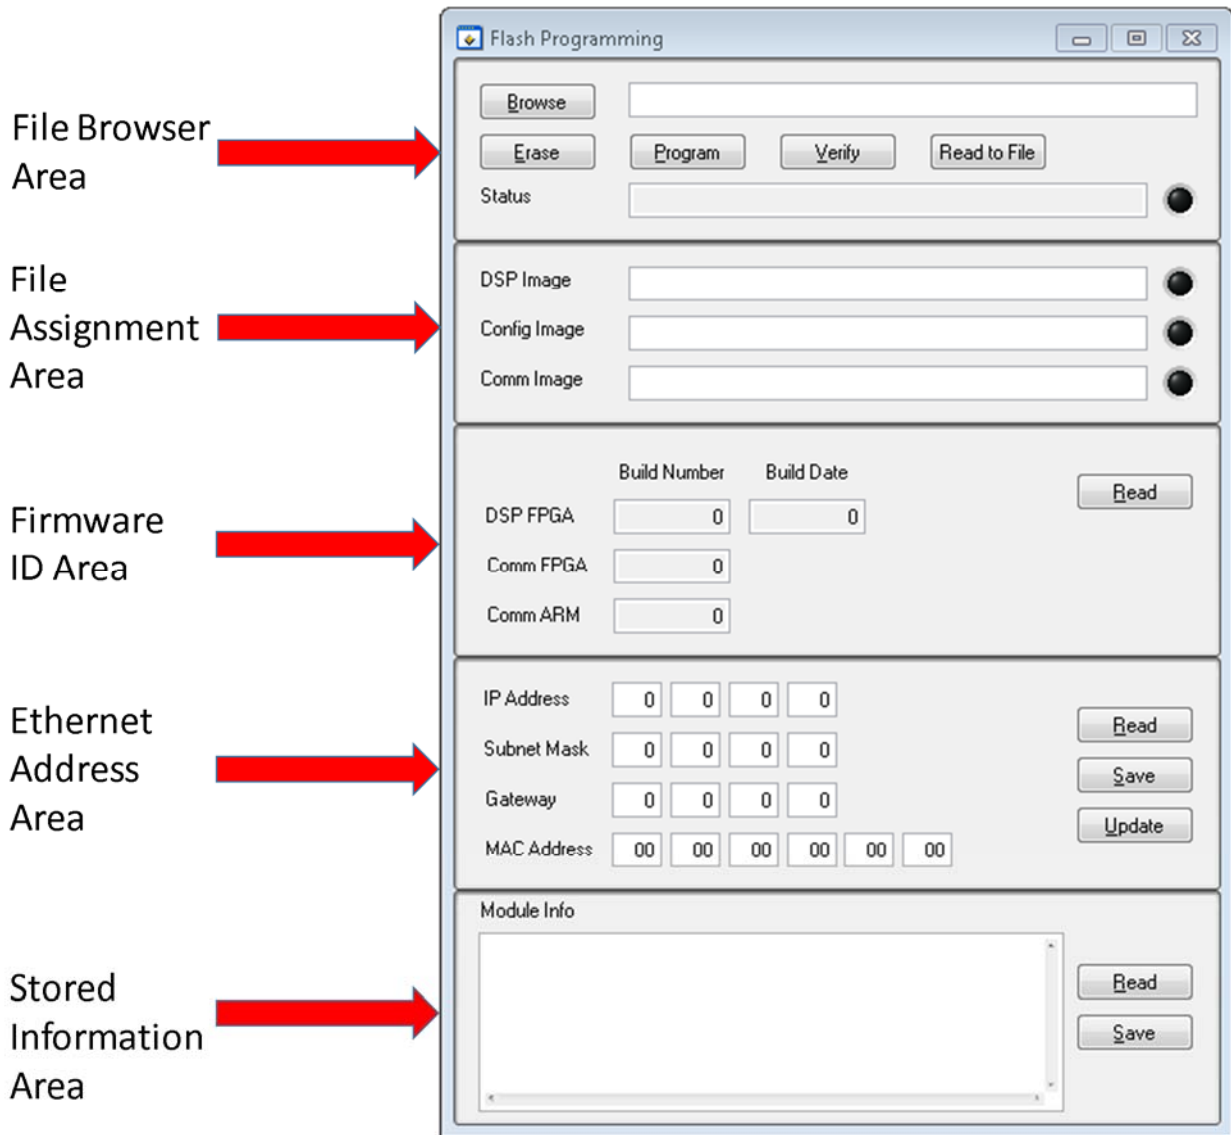

Figure 5 - Flash programming screen.
- ___ DONE a. Hit the **Flash** button of the initial LBNEWare screen. The Flash programming window shown in Figure 5 should appear.
- ___ DONE b. This screen contains multiple buttons and dialog areas used for different functions. Note that each area is specifically named in Figure 5. These window area names will be referenced in the rest of this section, so make certain to note which is which.